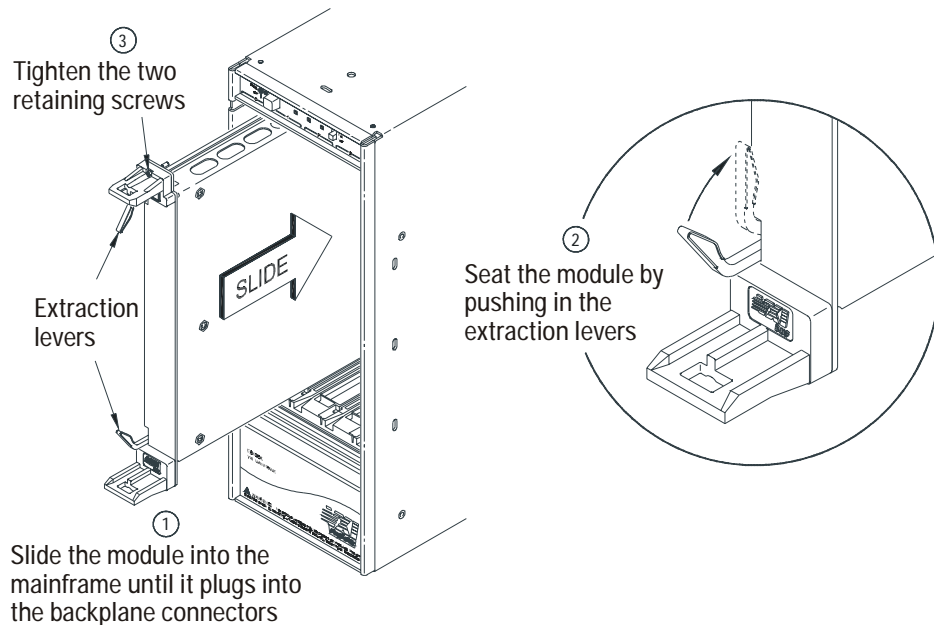

Figure 3-6
5. Install the module into the mainframe as instructed in steps 1, 2, and 3 of Figure 3-6. (Note: the E2730 module does not have insertion/extraction levers.)